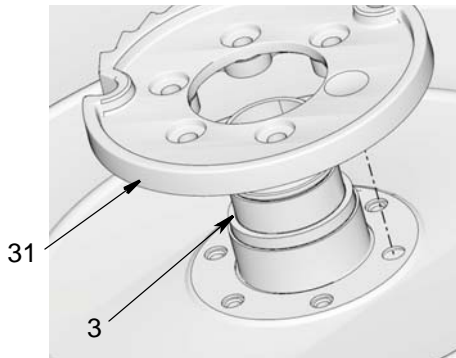

FIG. 29
- a. Slide ratchet (31) over swivel (3) (FIG. 29).